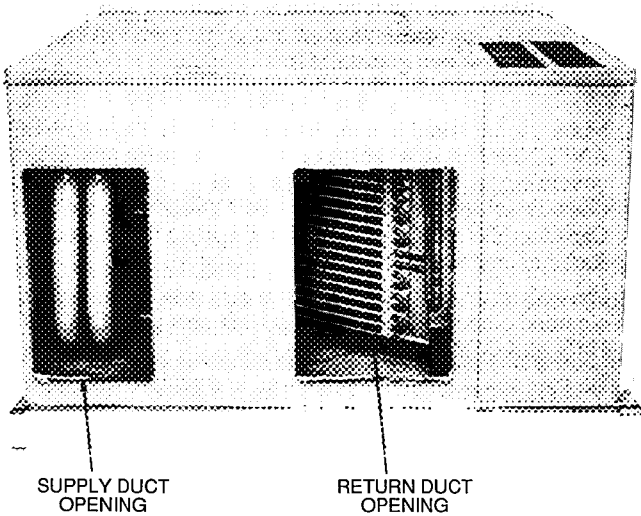

Fig. 16 — Supply and Return Duct Openings
2. Remove return duct cover located on duct panel. Figure 16 shows duct cover removed. Save duct cover and screws.
5. Remove supply duct cover located on duct panel. Figure 16 shows duct cover removed. Save duct cover and screws.